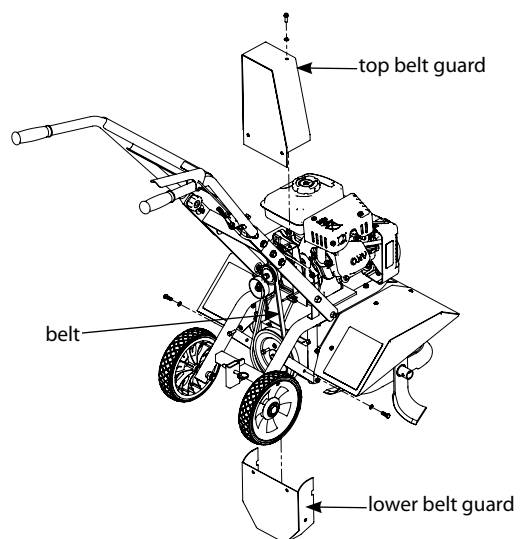

Figure 10: Changing the tiller belt
3. Remove top and lower belt guards (18129 and 18123). **SEE FIGURE 10.**